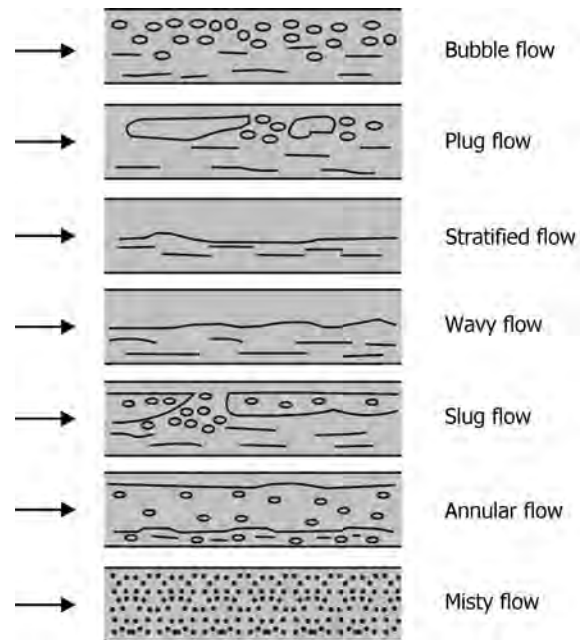

FIGURE 7.5 Flow patterns in gas/vapor–liquid flows in horizontal pipes.
- Figure 7.5 illustrates gas/vapor–liquid flow patterns in horizontal pipes.